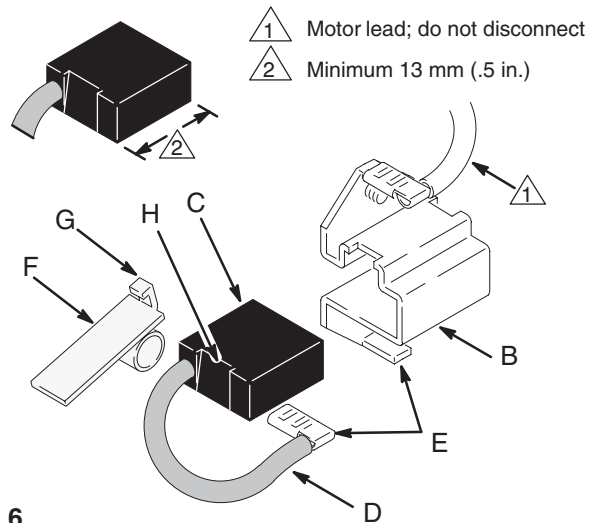

Fig. 6
3. Push in spring clip (F) and release hooks (G) from brush holder (B). Pull out spring clip. See Fig. 6.
6. Place a new brush (C) in holder (B) so ramp (H) faces spring. See Fig. 6.